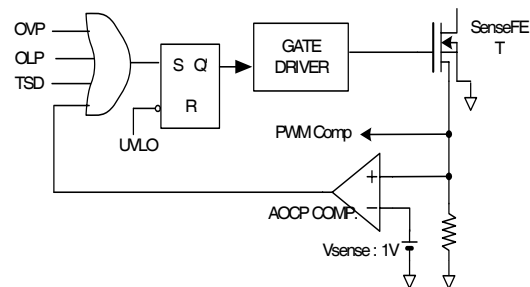

Figure 25. AOC block
3.1 Abnormal Over Current Protection (AOC): When the secondary rectifying diodes or the transformer pins are shorted, a steep current with extremely high di/dt can flow during the LEB time. Therefore, the abnormal over-current protection (AOC) block is added to ensure the reliability, as shown in Figure 25. It turns off the SenseFET within 300ns after the abnormal over-current condition is sensed.